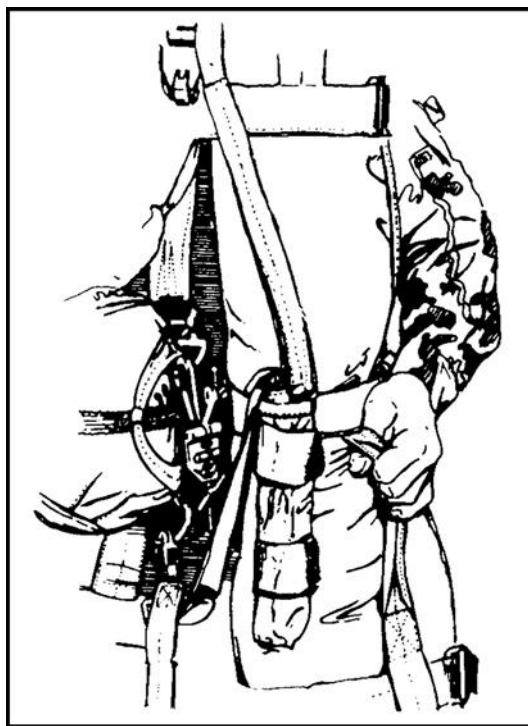

Figure 12-55. AT4JP secured.
- d. Secure the AT4JP by attaching the quick-release snap to the left D-ring outside of the H-harness snap hook (Figure 12-55). Ensure that the quick-release safety gate is closed and the quick-release snap is locked to the D-ring, and that the quick-release assembly release attachment sequence is inboard to outboard as follows: reserve, H-harness, and AT4JP quick-release snap.